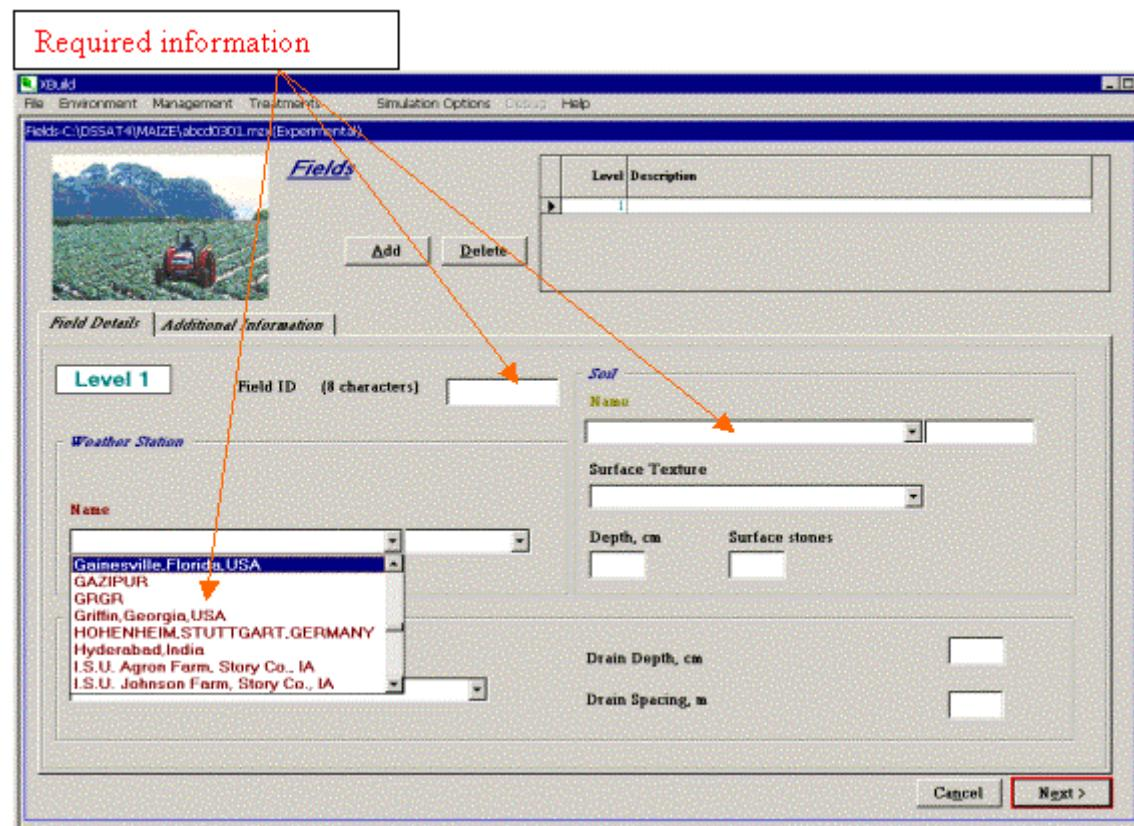

Figure 4. The third screen of XBuild that allows users to define field information (including weather and soil).
4. On the **Fields** screen, fill in the text boxes for **Field ID**, **Weather Station Name**, and **Soil Name**. Fill other information if necessary. Click the **Next** button (Figure 4).
The **Field** menu button opens the main **field** window (Figure 4). These data include description, Field ID, weather station, soil, location, drainage, and other field information. Some data have to be entered manually, some are chosen from drop down menus. The **Add** and **Delete** buttons will add or delete a level in the field sections. The **OK** button will save the data and close the window.